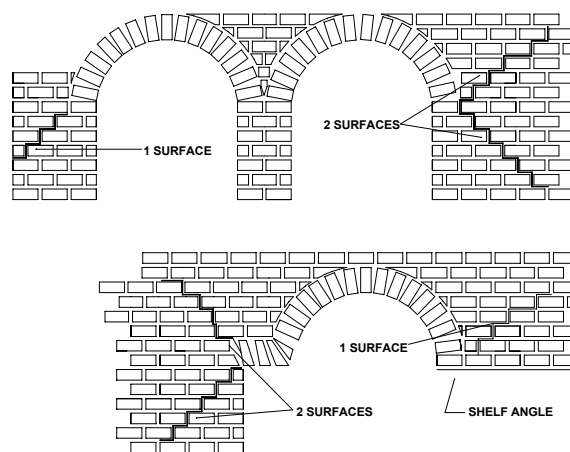

Figure 2
- Abutment length equal to: span length for one surface, $\frac{1}{2}$ span length for two surfaces (see Fig. 2)
0.33 times span length for two surfaces (see Fig. 2)
0.2 times span length for two surfaces (see Fig. 2)